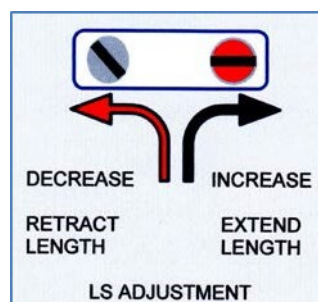

Figure 5 - Retrack
- 2.7 To reduce (decrease) gate travel towards the closure position turn the extend length adjustment screw counter clockwise. As indicated in red in Figure 5.